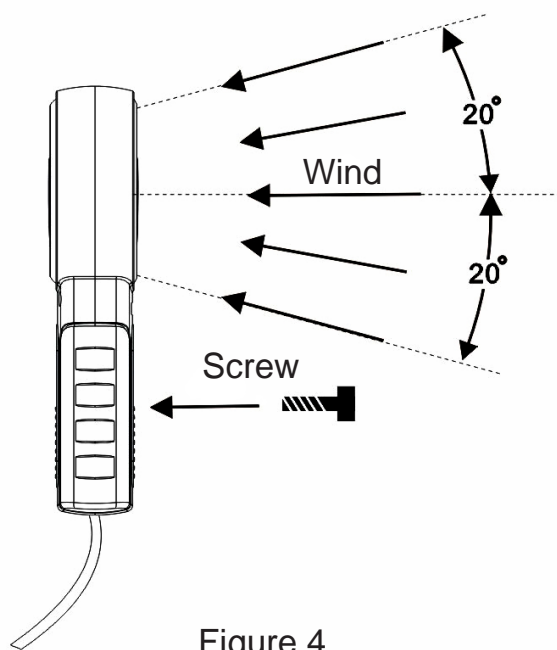

Figure 4
Measuring For Wind Speed (Wind Count) (see figure 4)
2. Press VEC / FLOW (figure 4) to conduct function switch. LCD shows either " VEL " or " FLOW "
4. Use figure 4 to conduct wind speed measurement , it shows wind flow direction, but bear in mind  **Warning** do not use it in opposite. A screw can fix on it.